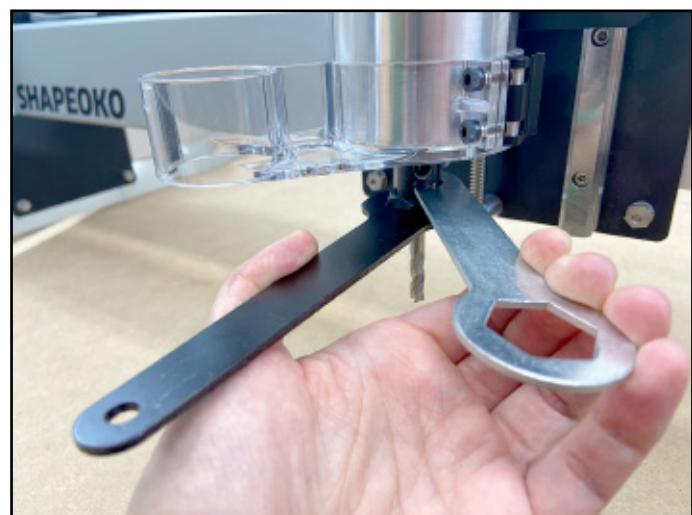

Figure 8-10
2. Use the 22mm collet nut wrench and the 13mm spindle wrench to tighten the collet nut securely. See **Figure 8-10**. Alternatively, you can press and hold the shaft lock while tightening with the 22mm collet nut wrench. Never tighten the collet nut without an end mill inserted into the collet cone.